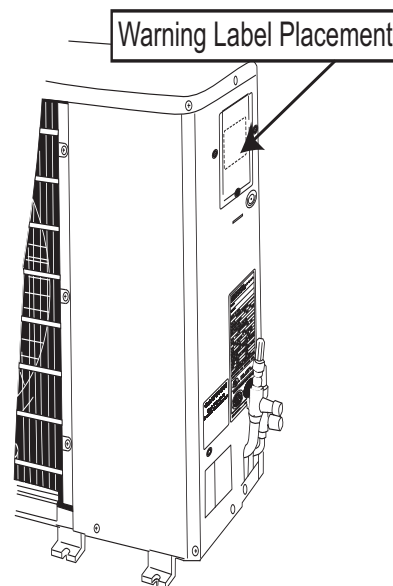

Fig. 6- Warning Label Placement
3. Apply the included Electrical Shock Hazard Warning Label to the outside of the service panel door. See Fig. 6 for placement.